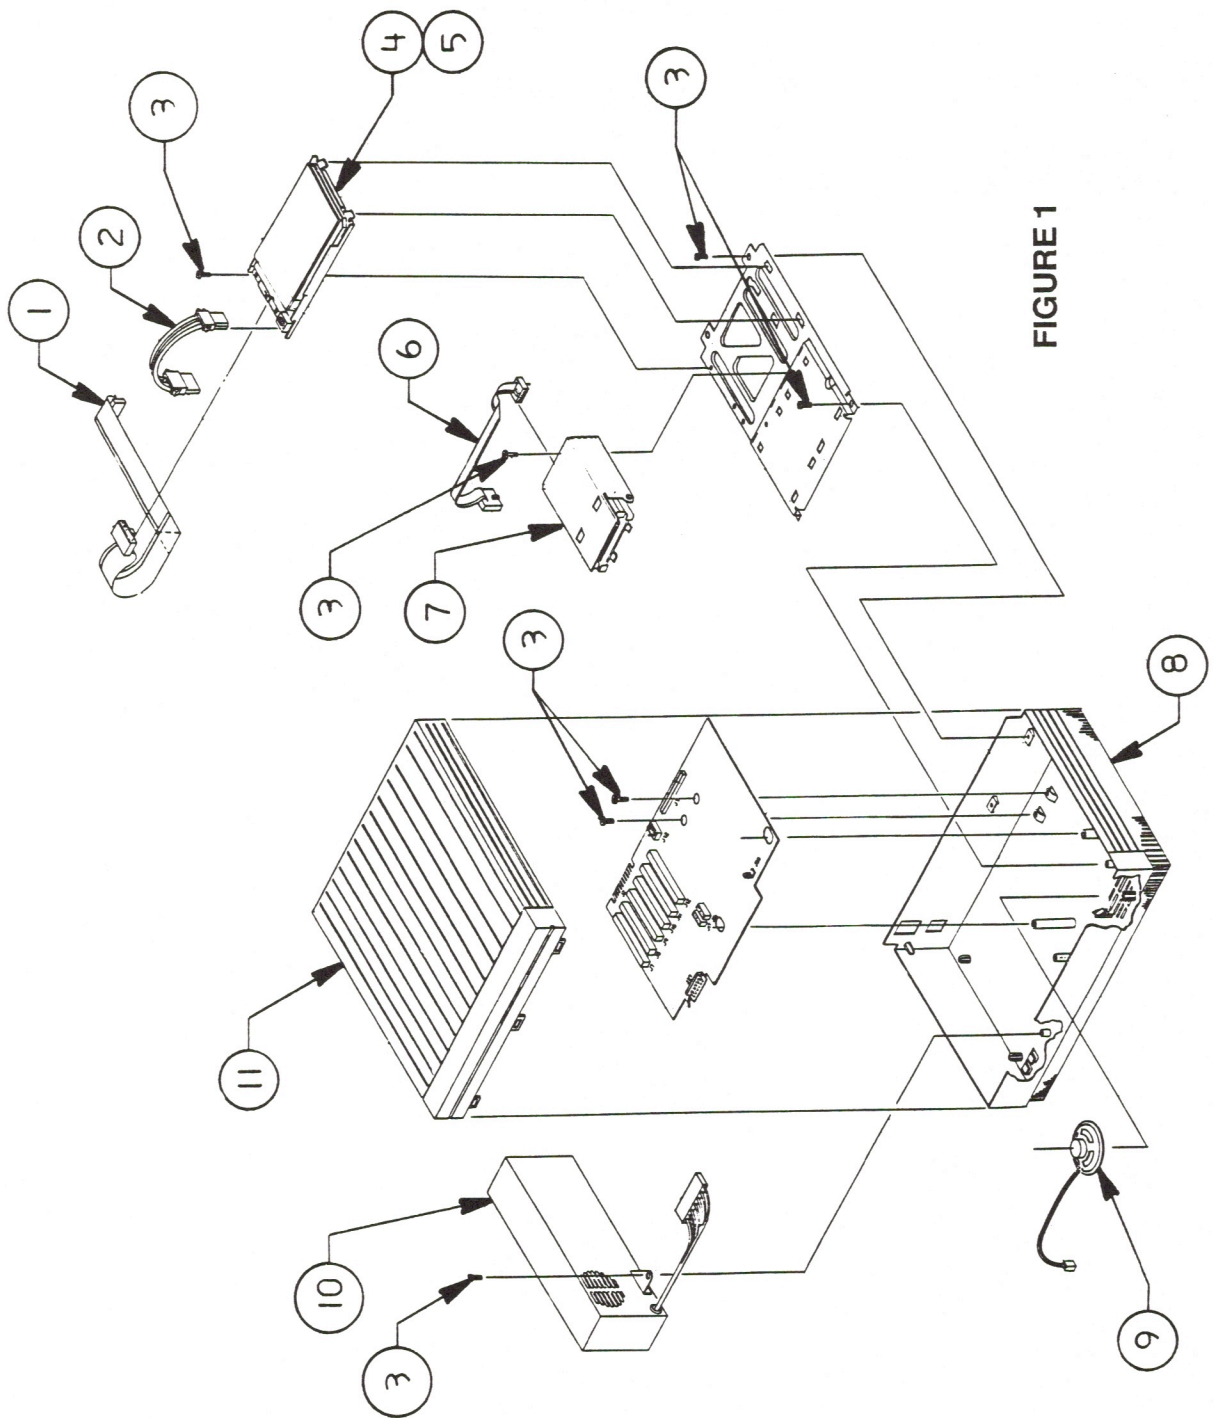

FIGURE 1
- IPL.3 System (Figure 1)
□ MACINTOSH II – SYSTEM (Figure 1)